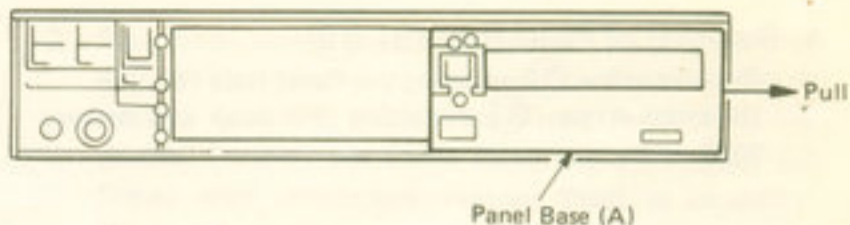

Fig. 7
- 2 After attached the Panel Base (A), pull it to the arrow direction as in the Figure until it stops (approx. 1 mm). Follow the same procedure to complete attaching the Knob Frame. (Figure 7)